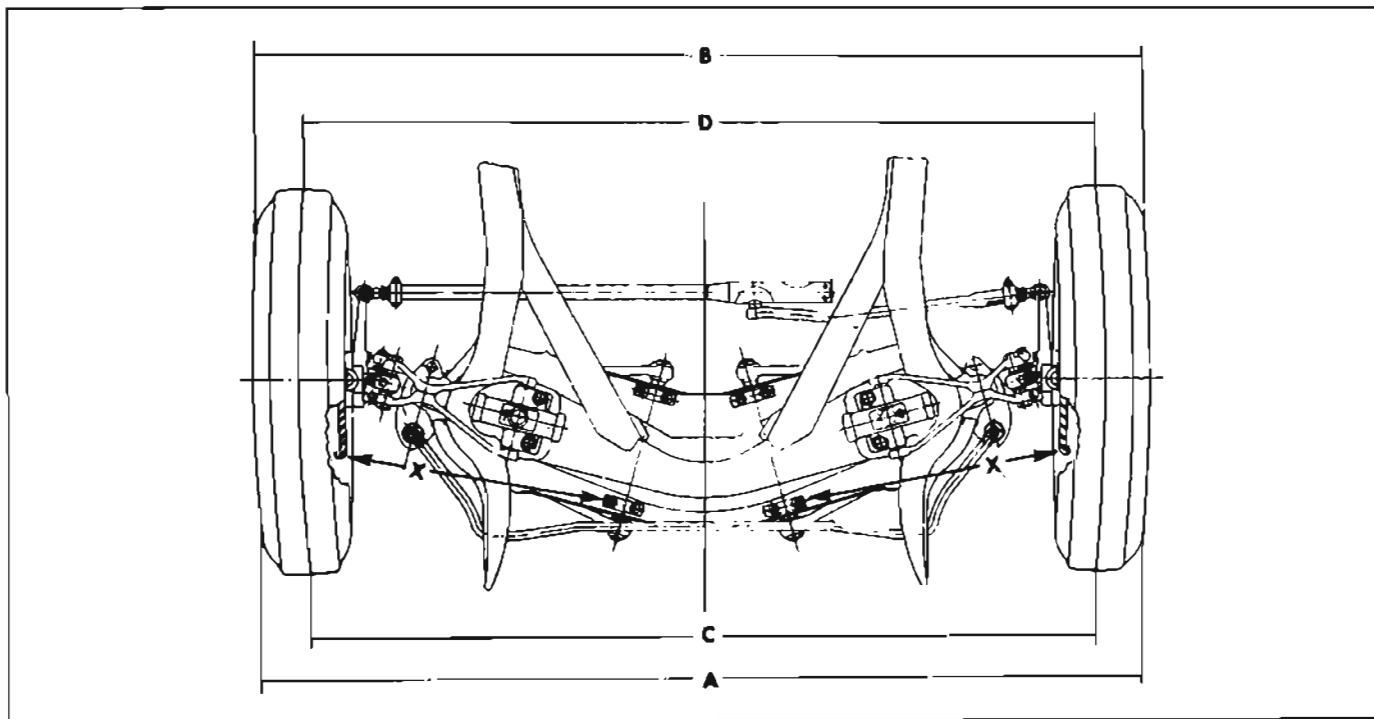

Figure 6-34—Front Toe-in
on each side. Adjust tie rods, if necessary, to make measurements equal on both sides. See figure 6-34 dimensions "X."
3. Using a suitable toe-in gauge, measure the distance between outside walls of tires at the front at approximately 10" from the floor. See figure 6-34 dimension "A." Mark points where gauge contacts tires. NOTE: An accurate check also can be made by raising and rotating front wheels to scribe a fine line near the center of each tire, then, with tires on the floor and front spring trim height correct, measure between scribed lines with a suitable trammel. See figure 6-34, dimension "C."
4. Roll the car forward until measuring points on tires are approximately 10" from the floor at the rear, and measure the distance between points used in Step 3 above. The measurement at the front (dimension "A" or "C") should be  $\frac{1}{8}$ " to  $\frac{1}{4}$ " less than the measurement at the rear (dimension "B" or "D"). See figure 6-34.